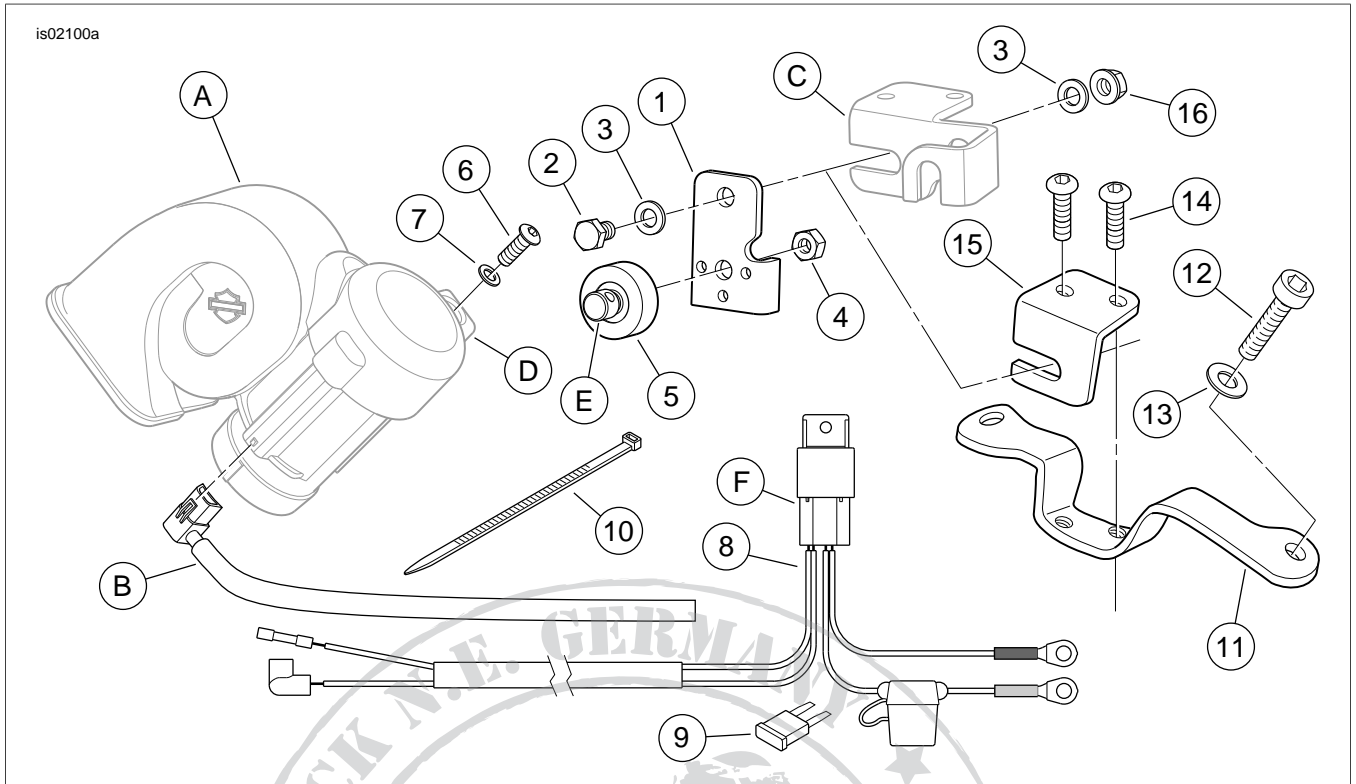

Figure 5. Service Parts, Horn Installation Kit
7. See Figure 5. Obtain the horn mounting bracket (1), chrome hex head screw (2) and one large flat washer (3) from the kit. Assemble the bracket to the slot in the horn bracket (Item C or 15), with the bent tab toward the vehicle, using the flanged locknut (16) and the second chrome flat washer (3) from the kit. Do not fully tighten at this time.
8. Obtain the **new** isolator (5) and hex locknut (4) from the kit. Insert the **threaded** stud on the isolator, from the outside, into the large hole in the horn mounting bracket. Fit the three pins on the isolator into the small holes in the bracket, and fasten the isolator to the bracket with the washer and nut. Tighten to 80-100 **in-lbs** (9.0-11.3 Nm).
16. Tuck the fuse holder (5) and horn relay (6) into the available space alongside the battery.
18. See Figure 5. Obtain the air intake tube (B, comes with Premium Air Horn). Push the tube connector into the opening near the bottom of the horn until the tab retainer clicks into place.